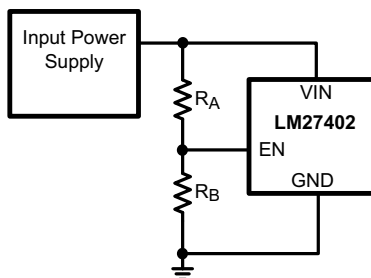
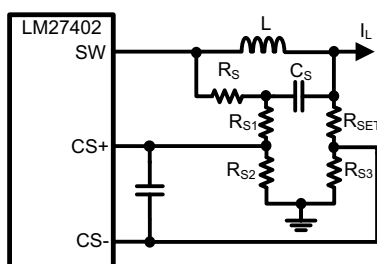

Figure 28. Enable Sequencing
Figure 34. Common Mode Voltage Resistor Divider Network
If enable (EN) is not controlled directly, the LM27402 can be pre-programmed to turn on at an input voltage higher than the UVLO voltage. This is done with an external resistor divider from VIN to EN and EN to GND as shown in Figure 28.
The internal current source $I_{\text{CS-}}$ is powered from the input voltage rail, V_{IN} . The minimum voltage required to drive that current source is 1 V from V_{IN} to V_{OUT} . If a low-dropout condition occurs where $V_{\text{IN}} - V_{\text{OUT}} < 1 \text{ V}$, the LM27402 may prematurely initiate hiccup mode. There are multiple options to avoid this situation. The first option is to enable the LM27402 after the input voltage has risen 1 V above the nominal output voltage as seen in Figure 28. The second option is to lower the comparator common-mode voltage shown in Figure 34 such that the $I_{\text{CS-}}$ current source has enough headroom voltage.